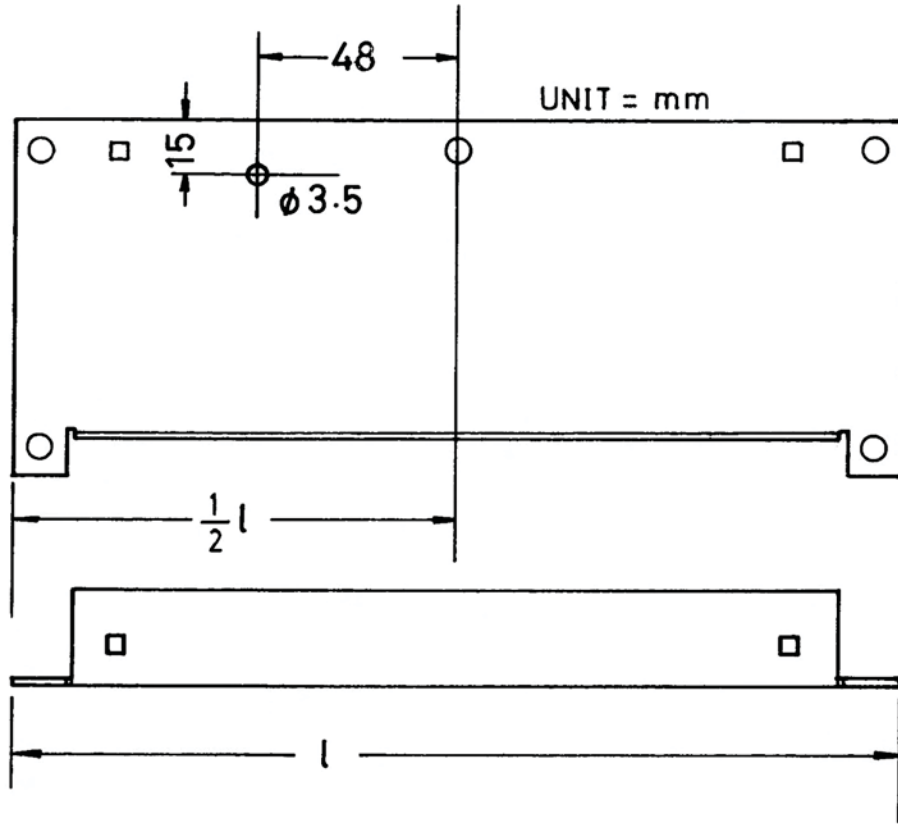

Fig.B-1
- 1) Drill a  $\phi$ 3.5 hole in the Driver PC Board fitting plate. See Fig. B-1.